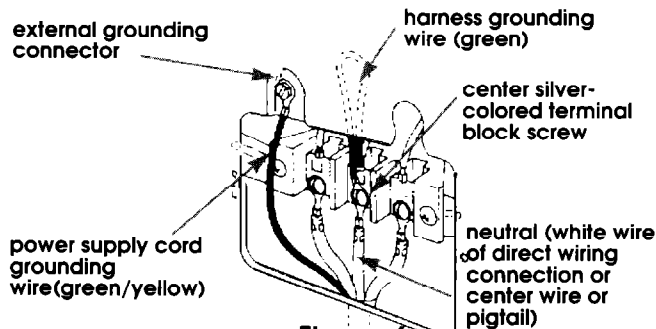

Figure 6
7. Connect the neutral (white wire of direct wiring connection or center wire of pigtail) to the center, silver-colored terminal screw of the terminal block. Connect the other wires to the outer terminals. See Figure 6.